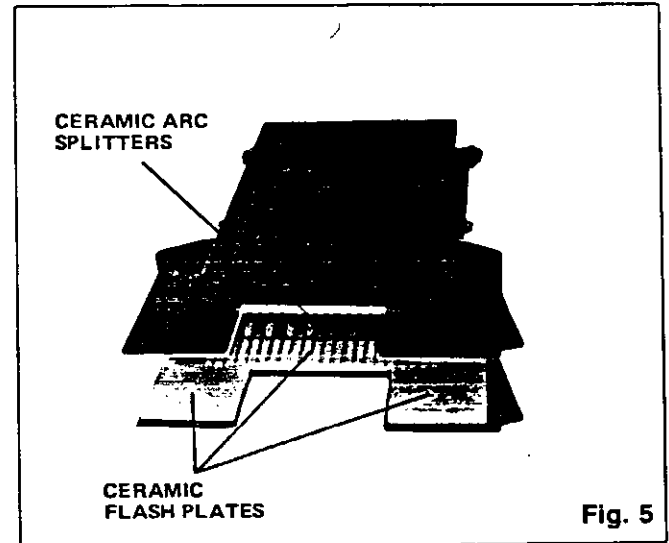

Fig. 5
1. Blow out dust and dirt by directing dry compressed air from the bottom of the arc chute up through the spaces between the ceramic arc splitters. The air should also be directed over the surfaces of the ceramic flash plates located in the lower portion of the chute (refer to Figure 5).